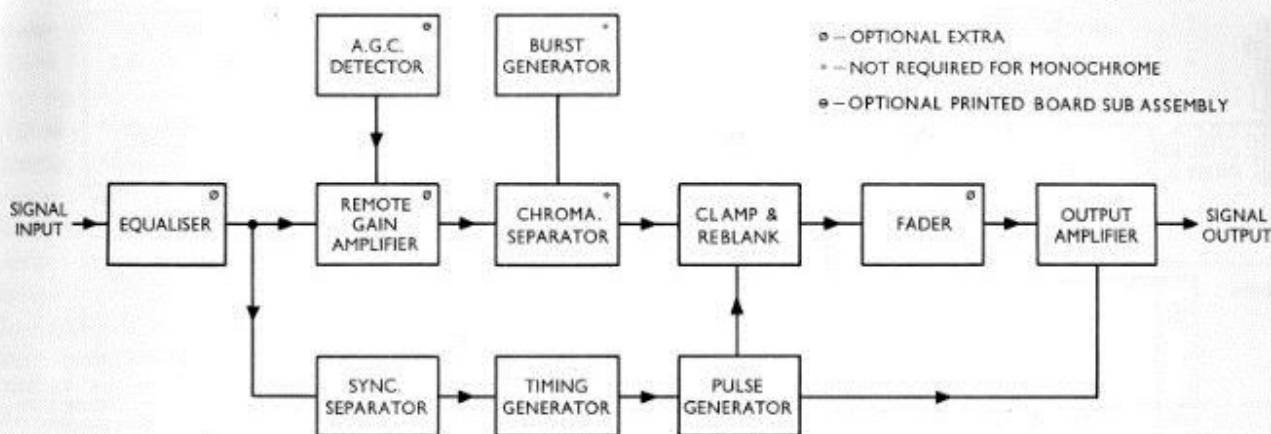

Fig. 2. Simplified block diagram of Line Clamp Amplifier with Pulse Regeneration.
2. The Line Clamp Amplifier with Pulse Regeneration (Fig. 2) provides complete regeneration of all pulses from the incoming signal, and, therefore, is suitable for use at any point in the signal path.